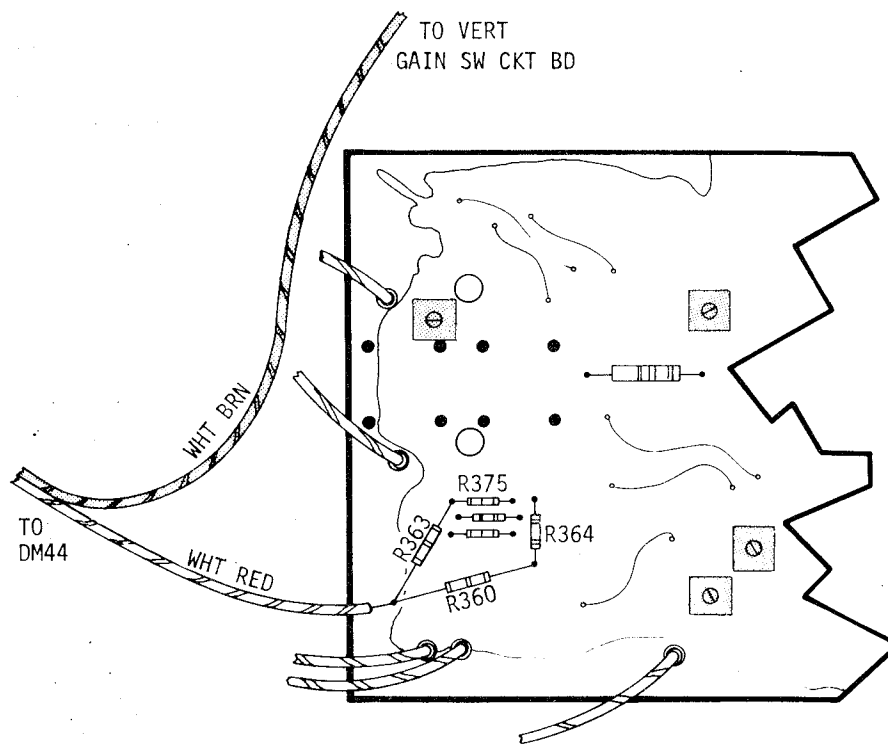

Fig. 6. Partial Vertical Preamp Circuit Board.
F. TO MODIFY A-3 VERTICAL PREAMP CIRCUIT BOARD; SEE FIG. 6: